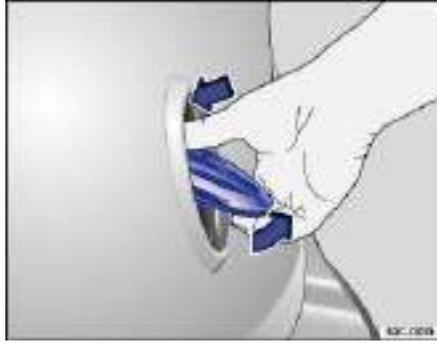

Fig. 28 Opening luggage compartment lid from the outside.
- Using your thumb, press the top of the Volkswagen emblem ⇒ fig. 28 and move the top of the emblem down. Grasp the bottom part of the emblem and pull to lift the luggage compartment lid.